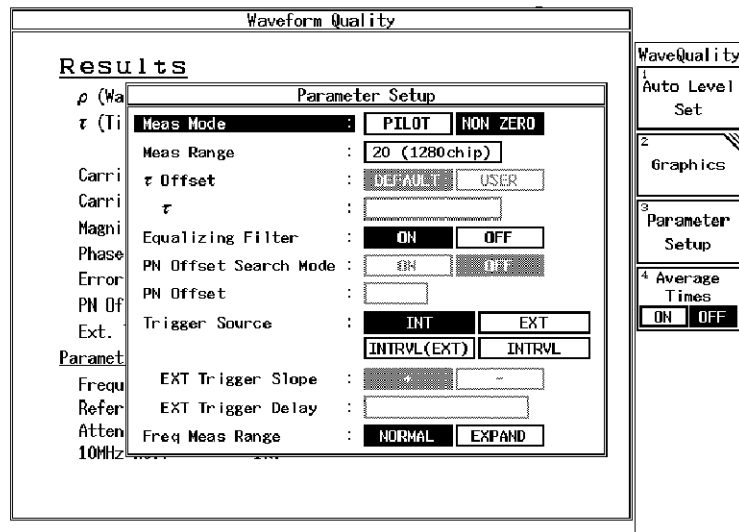

Figure 6-9 Setting of Measurement Parameter for Simplified Performance Check
3. On the R3267 Series, set the measurement parameter as shown in Figure 6-9.